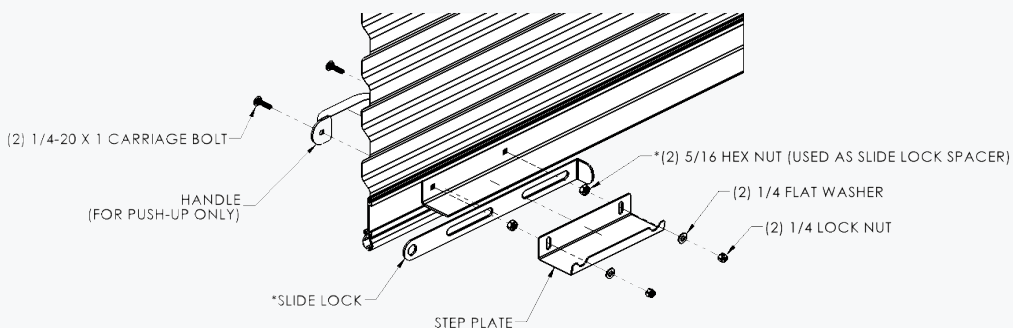

figure 20: Slidelock & Step Plate (Manual Operation)
- ✦ For chain hoist operated doors, lower the bottom bar and install the slide lock and step plate using (2) 1/4-20 x 1" carriage bolts, (2) 5/16-18 hex nuts, (2) 1/4 flat washers and (2) 1/4-20 nylon lock nuts. Do this at both ends of bottom bar. **See Figure 20.**
- ✦ *For electrically operated doors, lower bottom bar and install step plate using (2) 1/4-20 x 5/8 carriage bolts and (2) 1/4-20 Keps nuts. **See Figure 20 (OMIT SLIDE LOCK)**